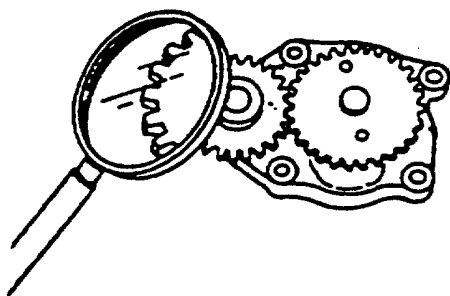

FIGURE 3-59. Gear Inspection.
- a. Visually inspect gears for cracks, chips or excessive wear. (FIGURE 3-59)